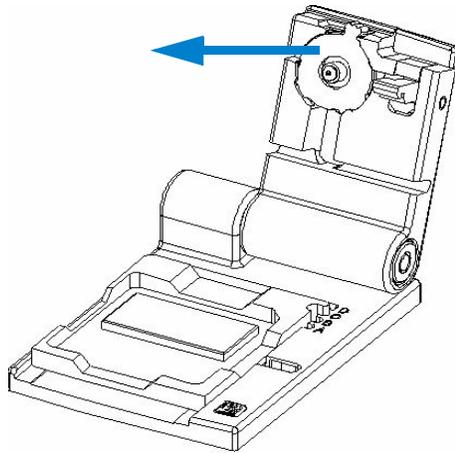

Figure 9 Releasing the Mounting Ring of the Syringe Adapter
- 3 Move the ring holding the adapter in place to the left as shown in Figure 9, “Releasing the Mounting Ring of the Syringe Adapter”. The ring will come off.